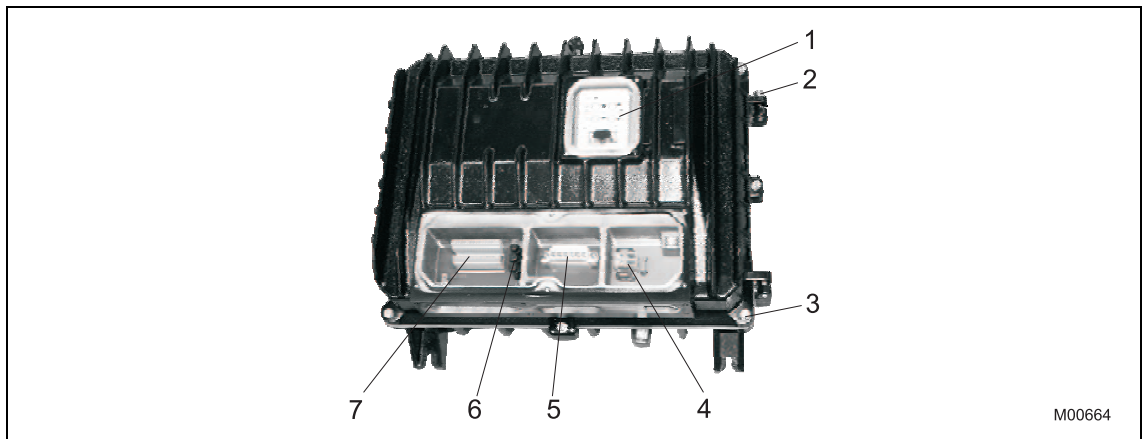

Fig. 8: Connection area
2. Unscrew and remove the cover screws (Fig. 8).
6. Unscrew and remove the hinge screw (Fig. 8).
3. Close the housing and insert and fasten the cover screws (Fig. 8).